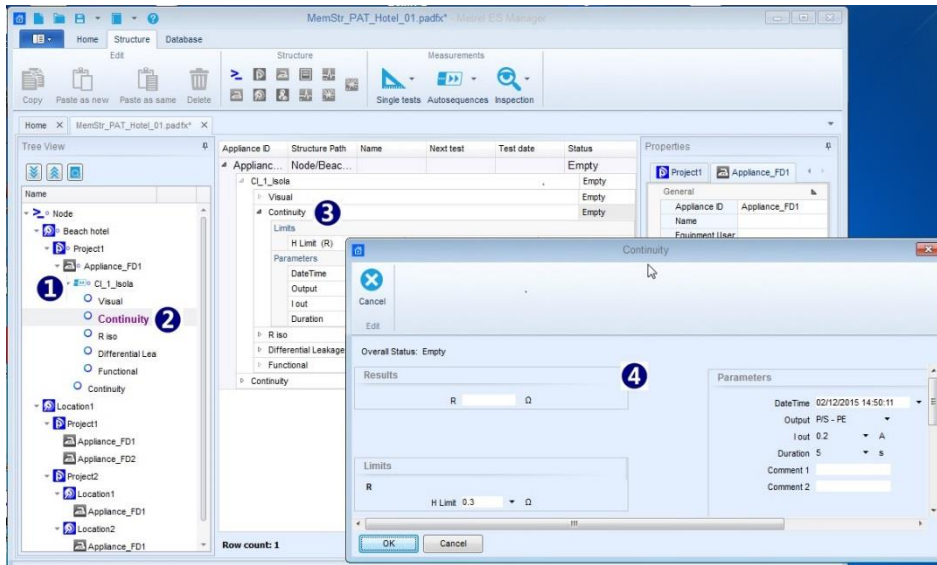

Figure 7.2: Edit Auto Sequence® test parameters and limits
- Parameters and limits can be reviewed and set again later. Clicking on the Single test name within the Tree view presents its contents in the Result view. Double clicking on its name in the Result view opens the Single test settings window (❶) in Figure 7.2.
- If necessary, parameters and limits of the Auto Sequence® test can be reviewed and set later, **Figure 7.2**. Expand the Auto Sequence® test node in the Tree view (❶) to see its single test contents.
- Select a Single test in the Tree view (❷) to present its content in the Result view area.
- Double clicking on a Single test name in the Result view (❸) open its settings window (❹).